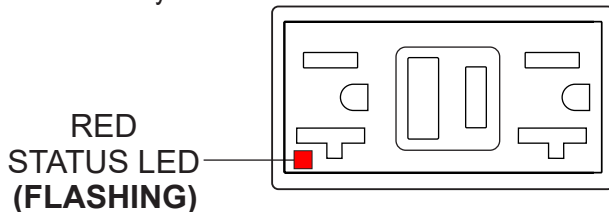

Figure 65. GFCI Receptacle (Red Flashing LED)
6. If the status LED (Figure 65) is **flashing (RED)**, **DO NOT** use the GFCI receptacle. Replace it immediately.